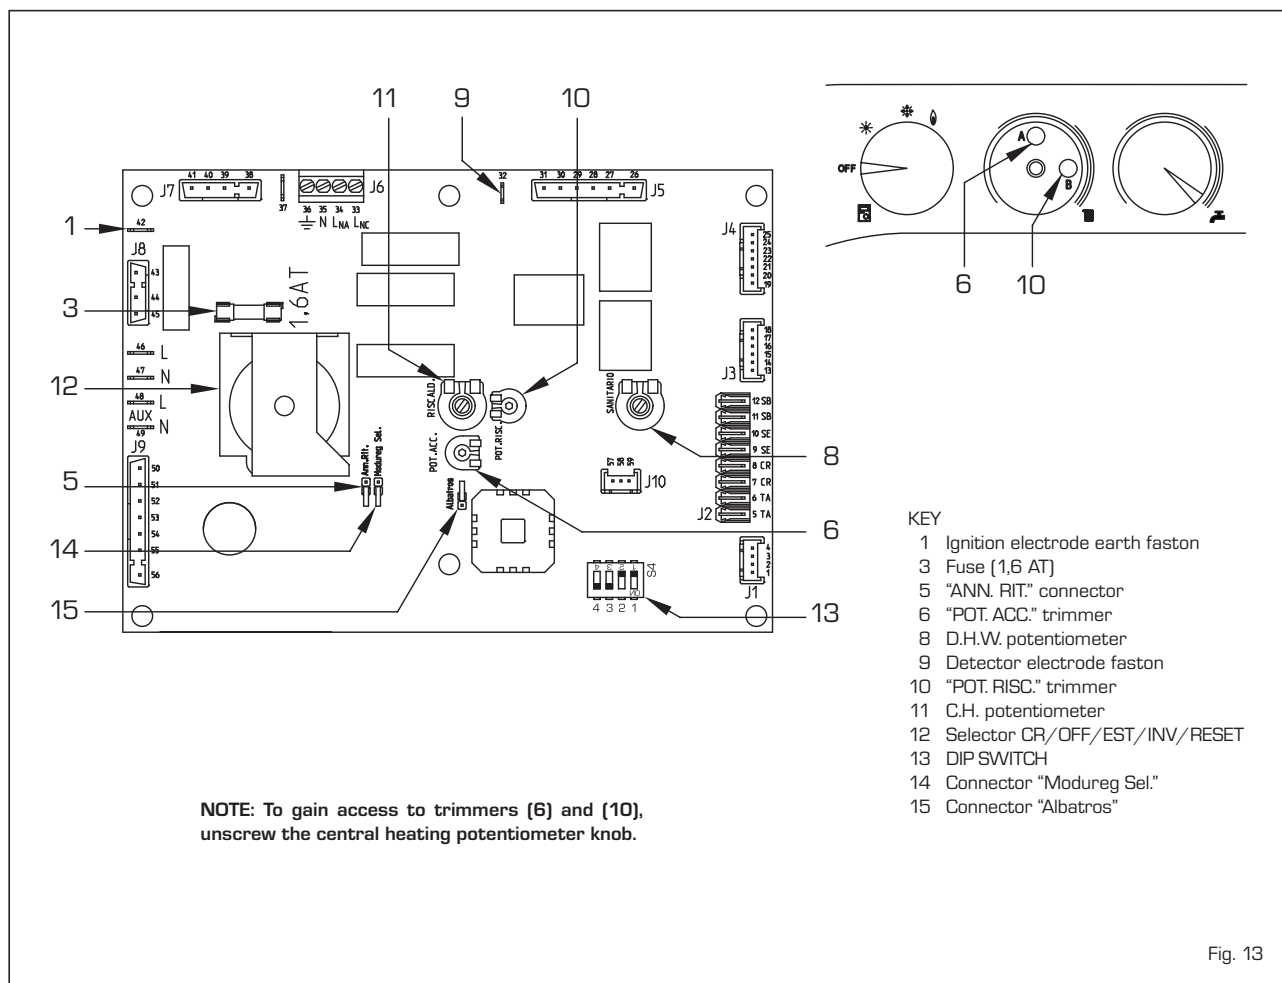

Fig. 13
- "HEATING POWER" TRIMMER (10 fig. 13)
- "IGNITION POWER" TRIMMER (6 fig. 13)
- "ANN. RIT." CONNECTOR (5 fig. 13)
- DIP SWITCH (13 fig. 13)
- "Modureg Sel." connector (14 fig. 13)
- "Albatros" connector (15 fig. 13)
screwdriver on the heat power trimmer (10 fig. 13). To increase operating pressure, rotate the trimmer clockwise, to reduce it, rotate the trimmer counter-clockwise. Boiler power settings can be checked